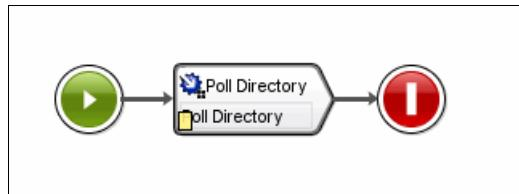

Figure 12-38 Started activity added to the *FTP_DB2_to_Domino_sync_Orders* orchestration
1. Select **FTP → Poll Directory** from the Activities tab, and drag the activity into the orchestration, as shown in Figure 12-38.